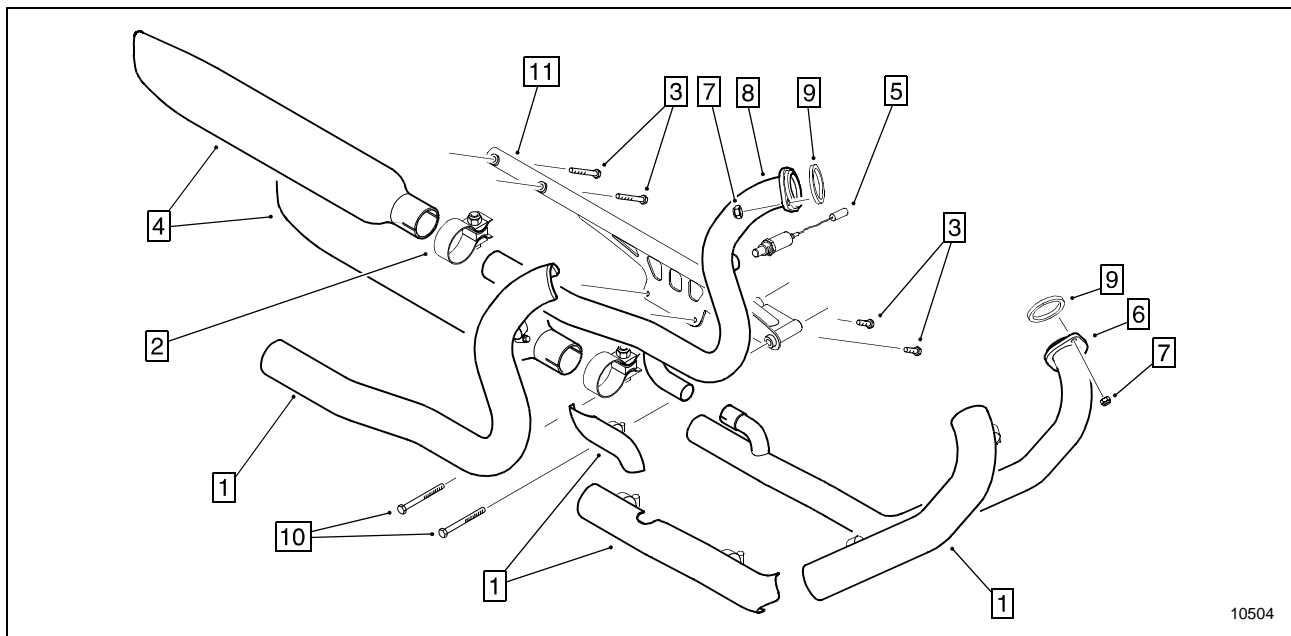

Figure 2
1. Remove all of the existing exhaust system heat shields (see Figure 2).